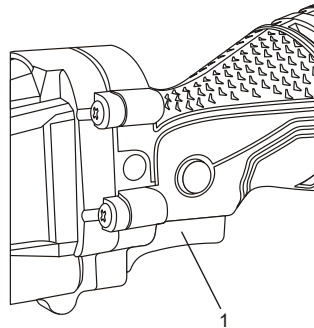

Fig. 2
1. To turn the saw ON, squeeze the trigger (1) slightly (Fig. 2).